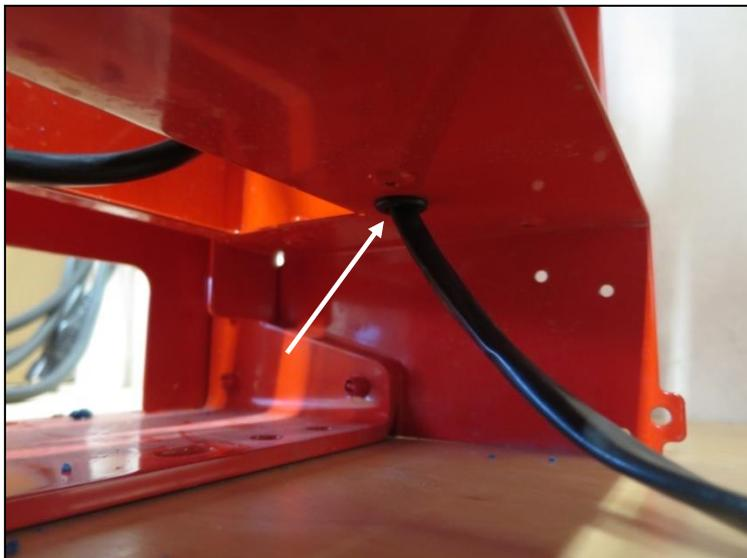

Fig.: 131
- Pull the cable for the spreading plate motor through the grommet on the bottom side of the spreader unit (Fig.: 131).